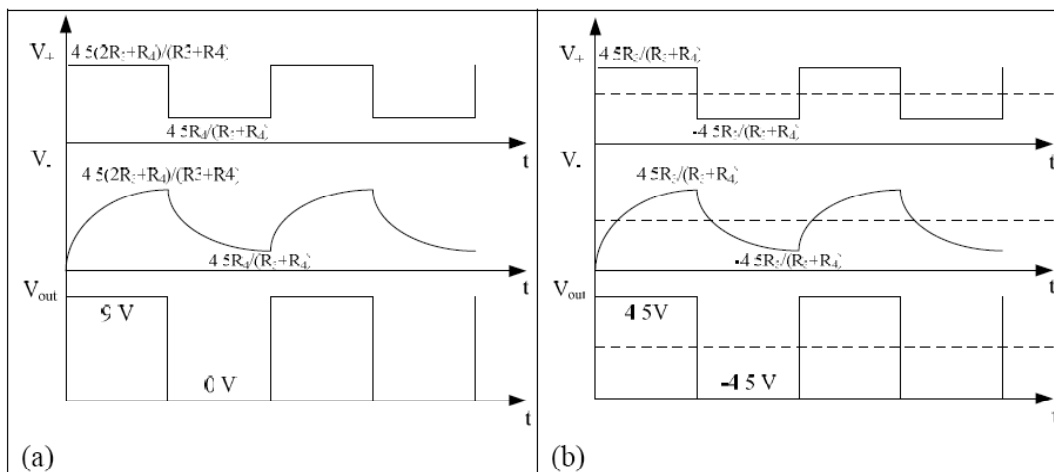

Figure 3. Waveforms of V_+ , V_- and V_{out} (a) with reference of 0 V . (b) with reference of 4.5 V
Therefore, we see that the circuit is toggling between the two states, and the output voltage is either 4.5 V or -4.5 V , which forms a periodic square wave. To understand the oscillation function better, we draw wave forms at V_+ , V_- and V_{out} on the same scale as shown in Figure 3(b). It's clear that the threshold voltages of output high and
as shown in Figure 3 (a). The threshold voltages changes to $4.5 \frac{2R_3 + R_4}{R_3 + R_4}$ and
B. Human eyes can differentiate frequency smaller than 30 Hz. So we need to make the oscillator frequency in the range 1 ~ 30 Hz. In order to express the frequency in terms of R3, R4 and R5 and C3, let's do some calculations based on the analysis in the above section. Since the two threshold values are symmetric as shown in Figure 3, we know that the duty cycle of the square wave is 50% (half period 9 V and half period 0 V). The period of the square wave is decided by the capacitor charging time constant $R_5 \times C_3$. Let's use the rising half period of V- in Figure 3(a). Since this is a first order RC circuit, the rising part can be express as: